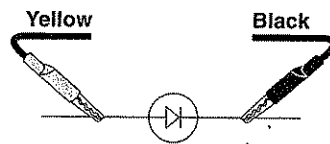

Fig. 1
3) Connect TEST leads as shown in Figure 1.